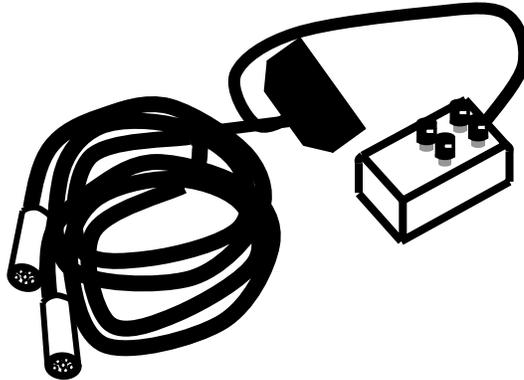

Figure 1-7. SPTICM Radio/Wireline Cable.
4. The SPTCIM provides modem capabilities that allow the CCU2 and AFATDS software to access radio and wire communications. The first channel of the SPTCIM card is fully programmable for different protocols. The second channel supports only radio communications using NRZ encoding. The SPTCIM cable is depicted in Figure 1-7 and its capabilities are described in Table 1-6. The issued cable provides a standard six-pin radio connector for each of the two channels and a wire line adapter.